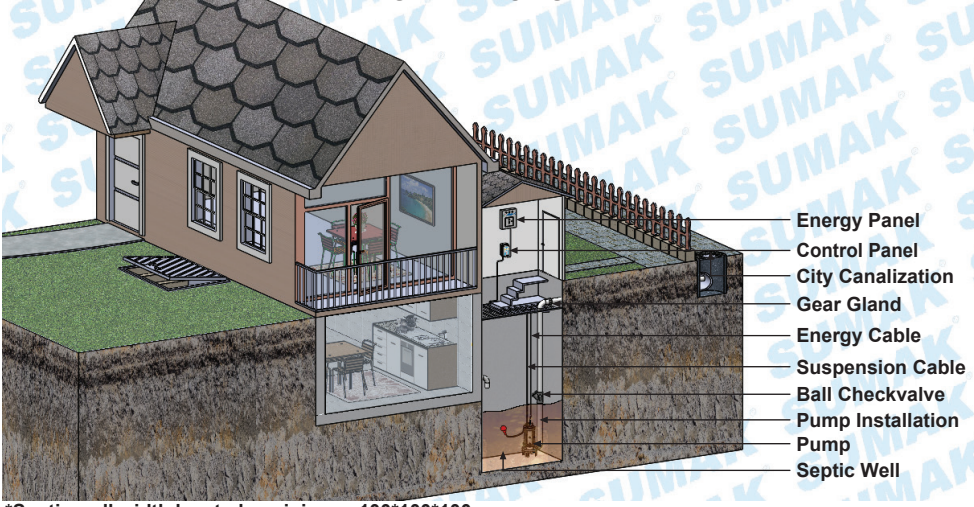

Figure 1
- 2-Pump working area should be minimum 100*100*100 cm. Please check Page 9 Figure 1.
- 6-Assemble the pump according to Figure 1 on Page 9.
- 34- Please check Figure 1 in Page 9 and Figure 2-3 in Page 13 for usage of pump and assembly information while mounting, check Figure 4-5 in Page 14 for working mechanism of the float switch, Figure 6 in Page 21 for electric connection, Figure 7 in Page 30 for life security warnings.